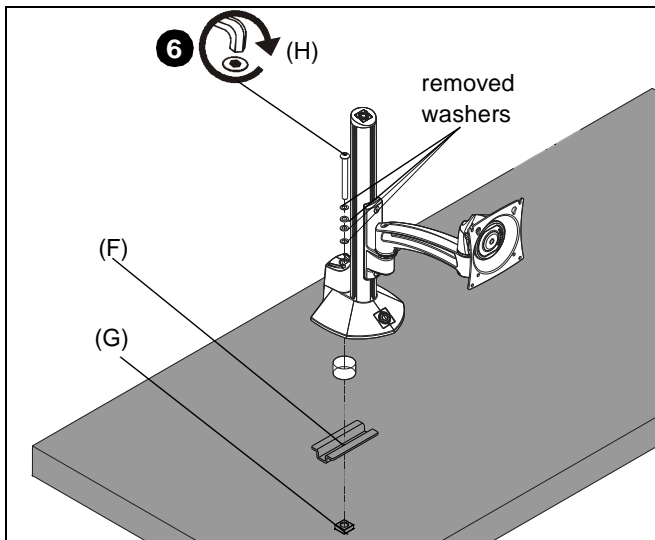

Figure 6
5. Place mount on desk over grommet hole. (See Figure 6)
6. Use 5/16-18 x 6" button head cap screw (H), clamp bracket (F), removed washers and 5/16-18" square nut (G) to secure mount to desk. (See Figure 6)